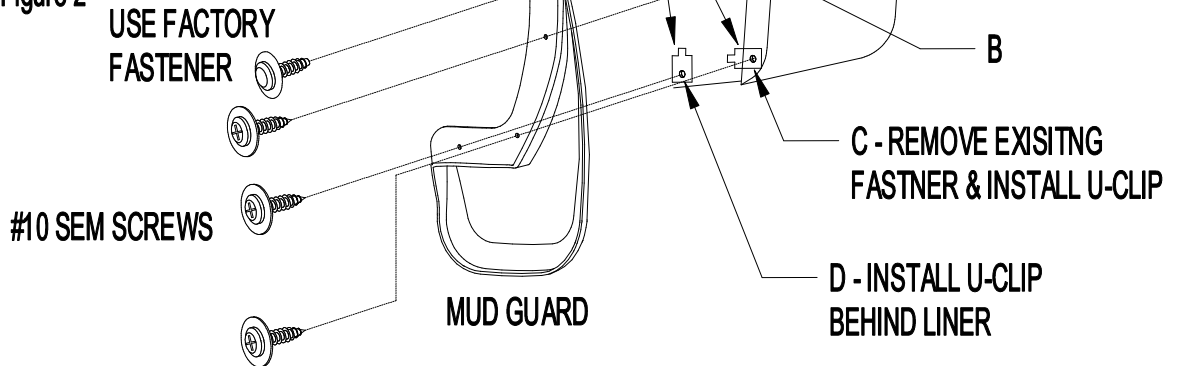

Figure 1
2. Remove existing fastener from location A and plastic fastener from location C (Figure 1).
3. Install mud guard to rear fender with existing fastener at location A (Figure 1). Check fit and parallel and adjust accordingly before tightening.